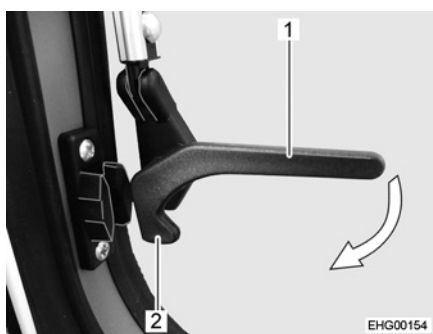

Fig. 25 Catch lever, on the side ("open" position)
- Turn the catch levers on the side (Fig. 25,1) a quarter turn towards the window frame until the locking catch (Fig. 25,2) engages.